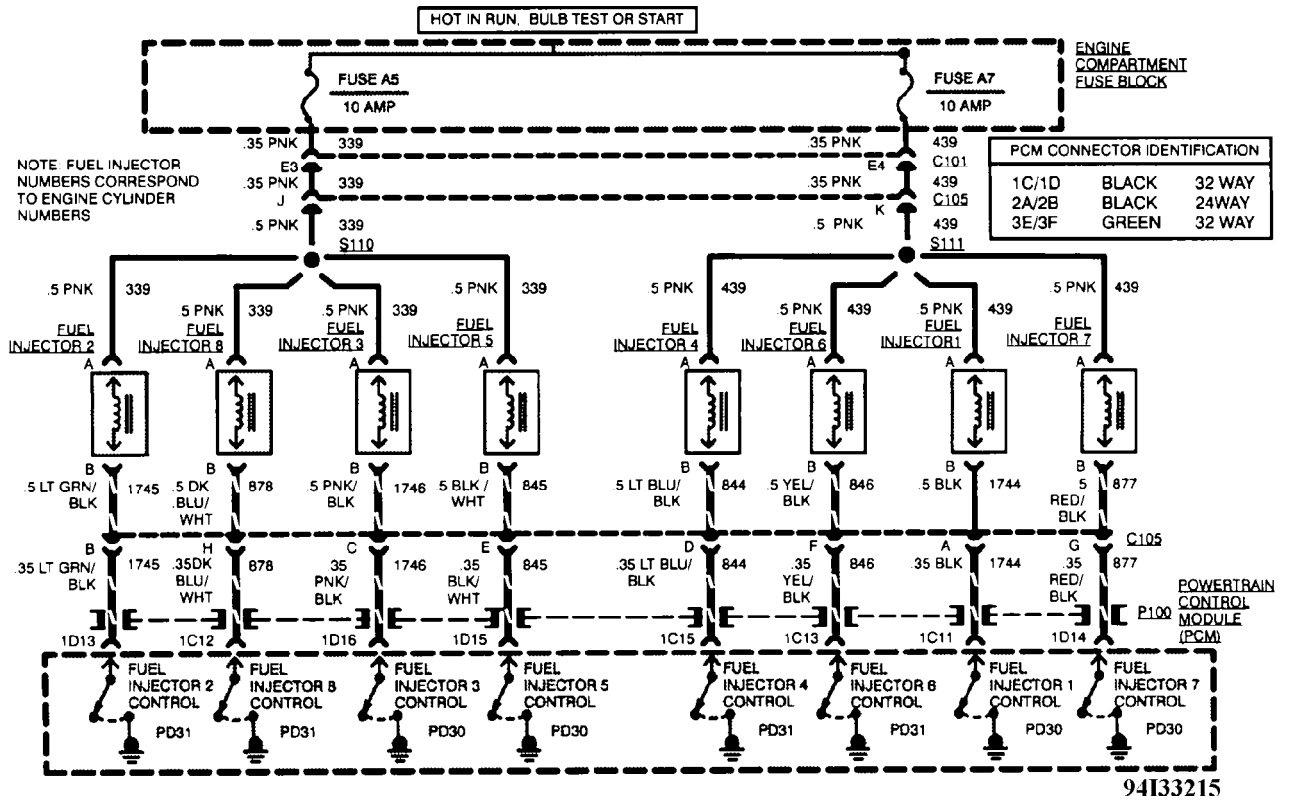

Fig. 3: 4.9L Injector System Schematic (Cadillac)
2) Disconnect injector harness. Turn ignition on and check for battery voltage at each injector harness. See Fig. 3. Battery voltage should be present on one side of each injector connector. If battery voltage is not present, check for blown injector power fuse. If battery voltage is present on both injector terminals, check for wires shorted together.